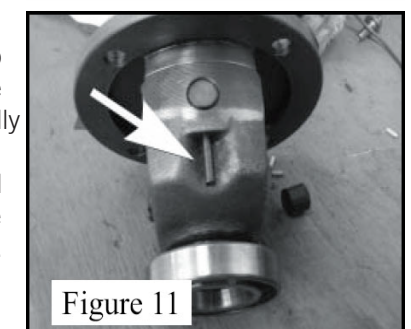

Figure 11
12. Drive out the roll pin securing the spider gear shaft, using a small pin punch. Drive it from the inside out as shown in figure 11.